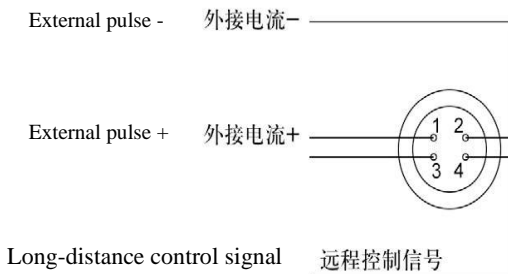

图 6 Fig. 6
- 电流控制接口：接口信号为标准的0/4-20mA，控制方式为比例控制，比例系数可以调节，支持反比例控制。（如图6）； Current control interface: The interface signal is the standard 0/4-20mA. The control method is proportional control. The proportionality coefficient can be adjusted. It supports reverse-proportion control. (as shown in Fig.6)